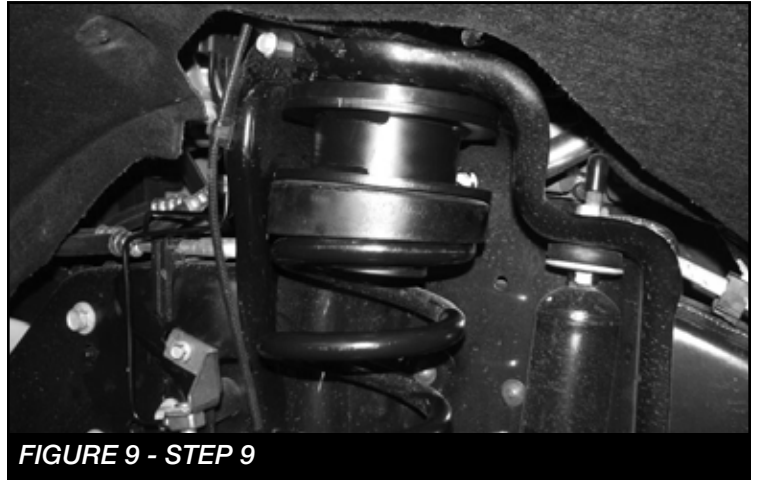

FIGURE 9 - STEP 9
9. Locate FT30546BK (spring spacer) and FT30554 (spring isolator). Install the spacer and new isolator on top of the factory spring and factory upper isolator then install in to the truck. **SEE FIGURE 9.**